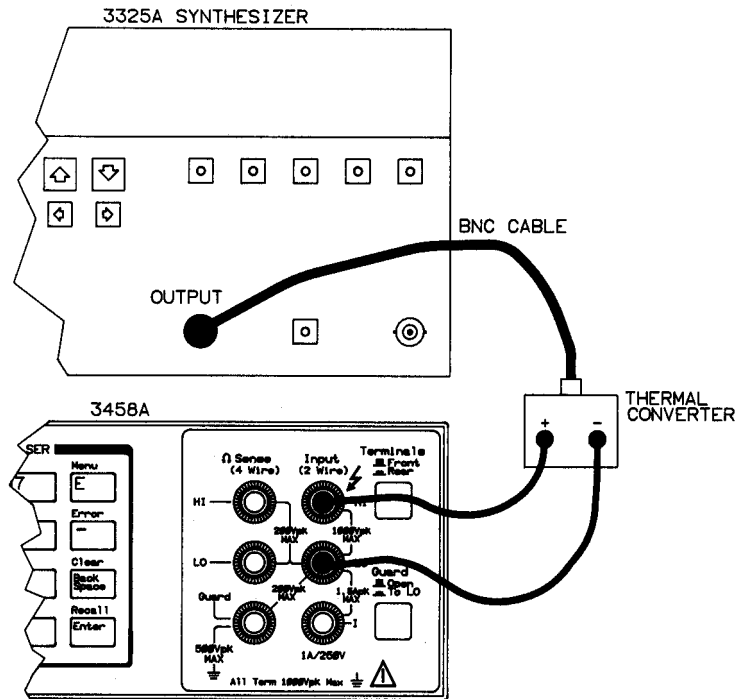

Figure 3-4 Characterizing the adjustment setup
- 3 Set the synthesizer to deliver a 3 V rms sinewave at a frequency of 100 kHz. Connect the synthesizer, the 3 V thermal converter, and the multimeter as shown in Figure 3-4. Record the exact DC voltage measured by the multimeter on Line A of the Adjustment Record.